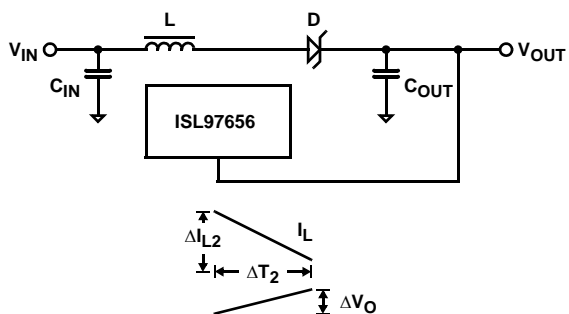

FIGURE 15. BOOST CONVERTER - CYCLE 2, POWER SWITCH OPEN
During the second cycle, the power FET turns off and the Schottky diode is forward biased, (see Figure 15). The energy stored in the inductor is supplied to the output. This energy is used to charge the output capacitor and supply output current. In this cycle switching node (LX) is held to $V_{OUT} + \text{Schottky diode drop}$. Voltage drop across the inductor is $V_{IN} - V_{OUT}$ (ignoring diode drop across Schottky diode). The change in inductor current during the second cycle is shown in Equation 2: